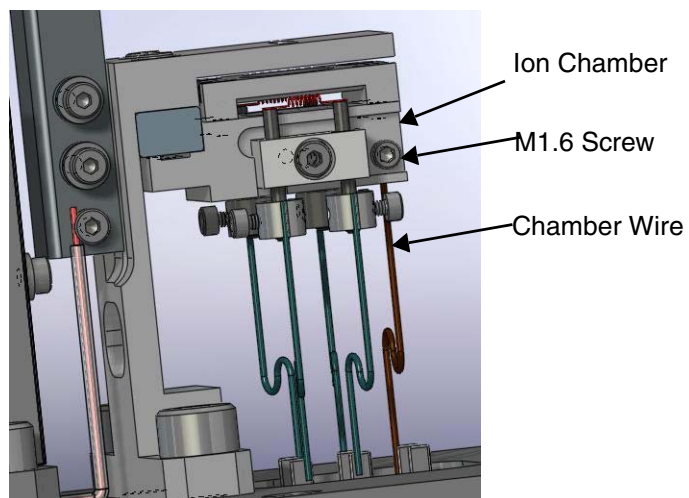

Figure B-69 Extractor Plate
18. Insert the chamber wire into the ion support assembly (Figure B-69).